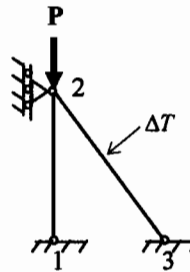

Fig. 2b
- Determine the force vector for the truss under load P and if the temperature of element 2 increases by $\Delta T = 46.19^\circ\text{C}$ (Fig. 2b). Calculate the displacement and reaction at node 2.